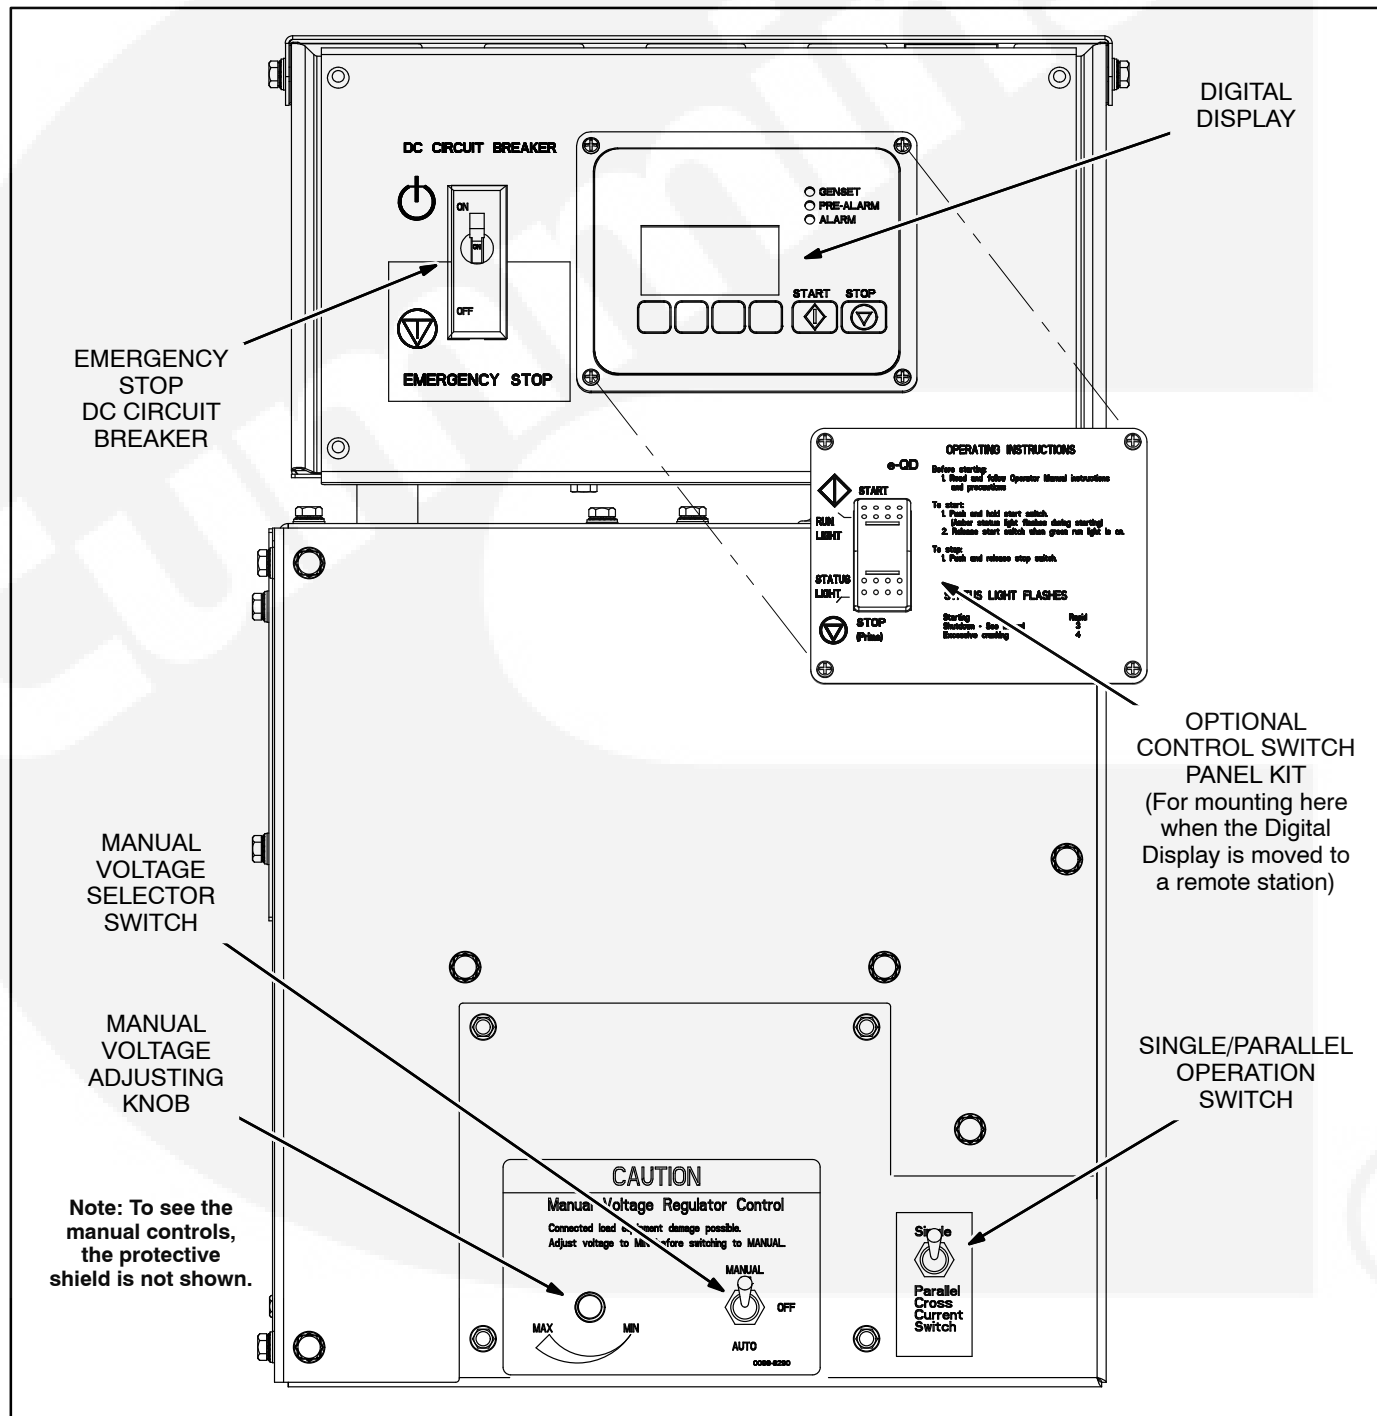

FIGURE 2-1. GENSET CONTROL PANEL
may have a single/parallel operation selector switch. It may also have a manual voltage regulator. If the genset has a housing, remove the front panel for access to the selector switches and manual voltage adjusting knob. See Figure 2-1.
A PMG-excited generator is designed for paralleling applications. A current transformer (CT) is provided to detect reactive current so that excitation can be regulated between the generators. The switch shorts the CT circuit for single generator operation. See Figure 2-1.
AUTO POSITION: The manual voltage control switch must be in **AUTO** for normal, automatic voltage regulation. See Figure 2-1.